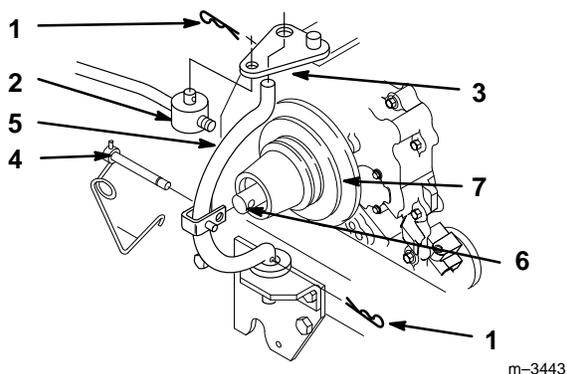

Figure 7
10. Remove hairpin cotter from trunnion and bottom of yoke (Fig. 7).
11. Unlatch and remove locking clevis pin that secures yoke assembly to clutch shaft. Pivot yoke out and forward to remove from clutch shaft and engagement plate (Fig. 7).
12. Place belt in inside pulley groove (Fig. 7).
13. Assemble yoke and engagement plate and attach locking clevis pin, trunnion and hairpin cotter to secure (Fig. 7).